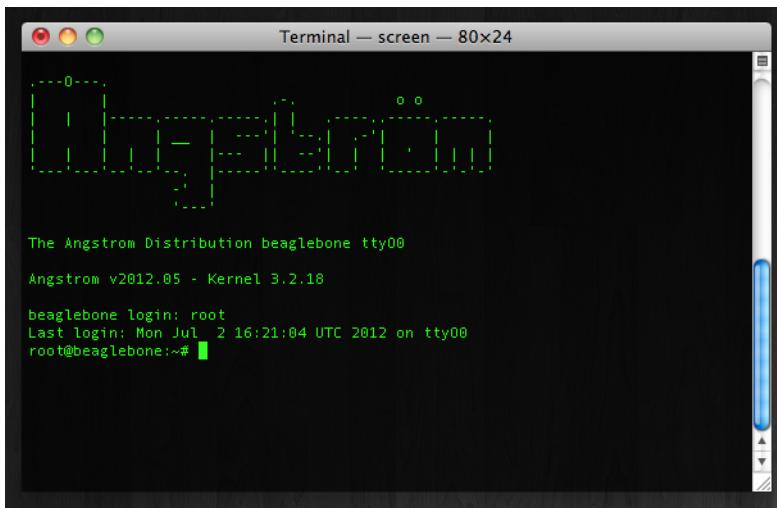

Figure 2-4. The serial log in screen
4. The screen will blank (besides a blinking cursor). Hit enter to display the login screen (Figure 2-4).
5. The screen will blank (besides a blinking cursor). Hit enter to display the login screen (Figure 2-4).